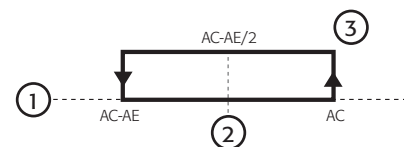

Fig. 4.l
- indicates that the limit between Ac and AE has been exceeded (deriving from the calculation: $Ac - AE/2$, see Fig. 4.l);
- indicates that the temperature set point Ac has been exceeded (see Fig. 4.l);